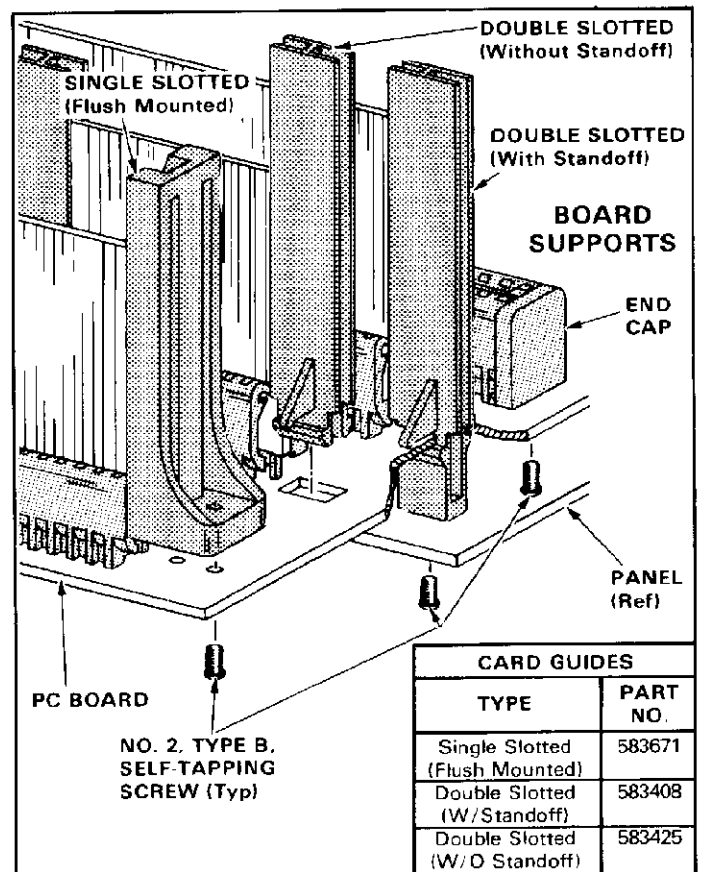

Fig. 3
**B. Board Supports (Figure 3)**
There are three types of card guides which are listed in the chart in Figure 3. The method of installing each type is indicated in Figure 3. Read the card guide instruction sheet (IS 7506) for the mounting dimensions, and overall dimensional requirements for the pc boards.